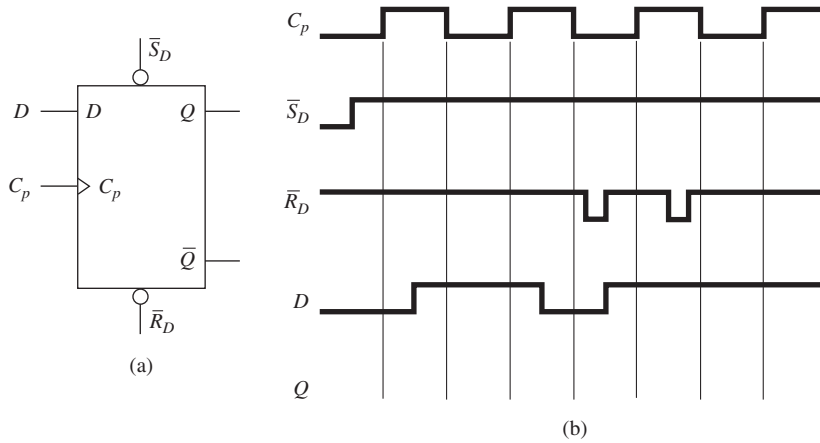

Figure P15
15. The logic symbol for one-half of a 7474 dual D flip-flop is given in Figure P15(a). Sketch the Q output wave given the inputs at C_p , D , \bar{S}_D , and \bar{R}_D shown in Figure P15(b).